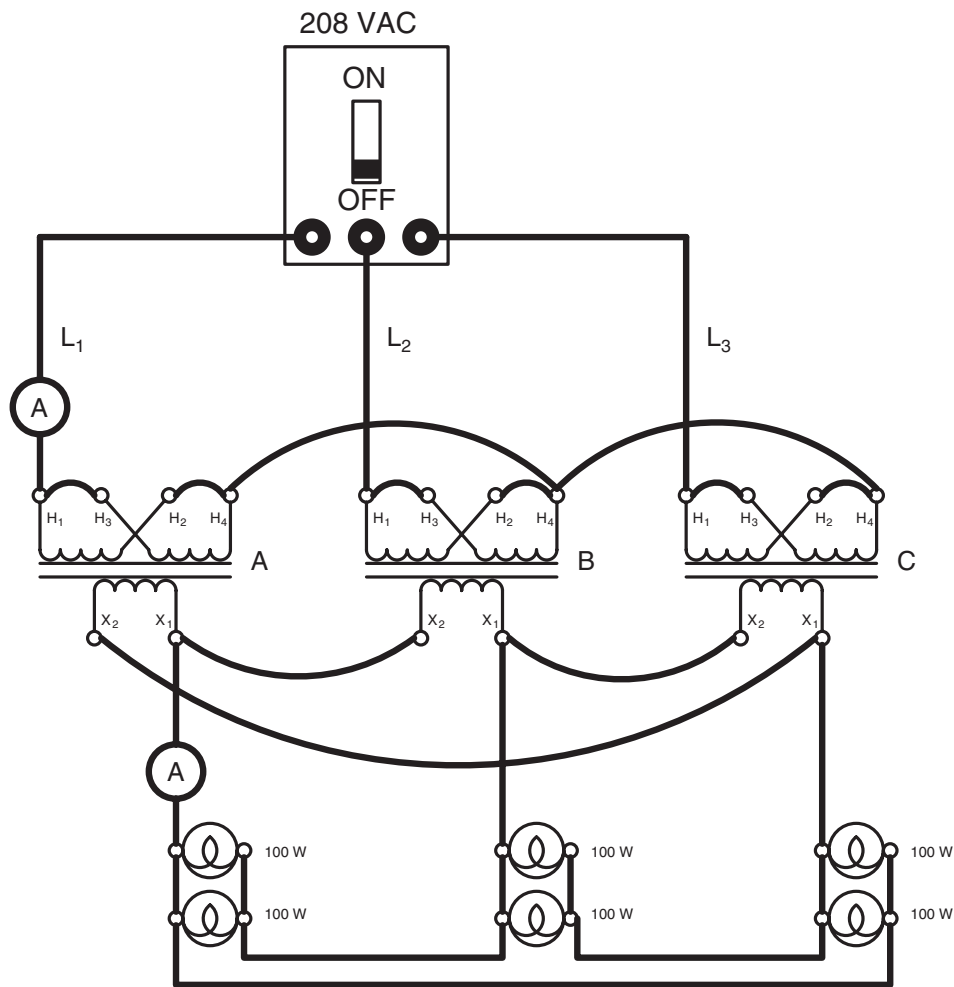

Figure 24-24 Adding load to the transformer connection.
43. Reconnect the delta connected lamp bank to the secondary of the transformer as shown in Figure 24-24.